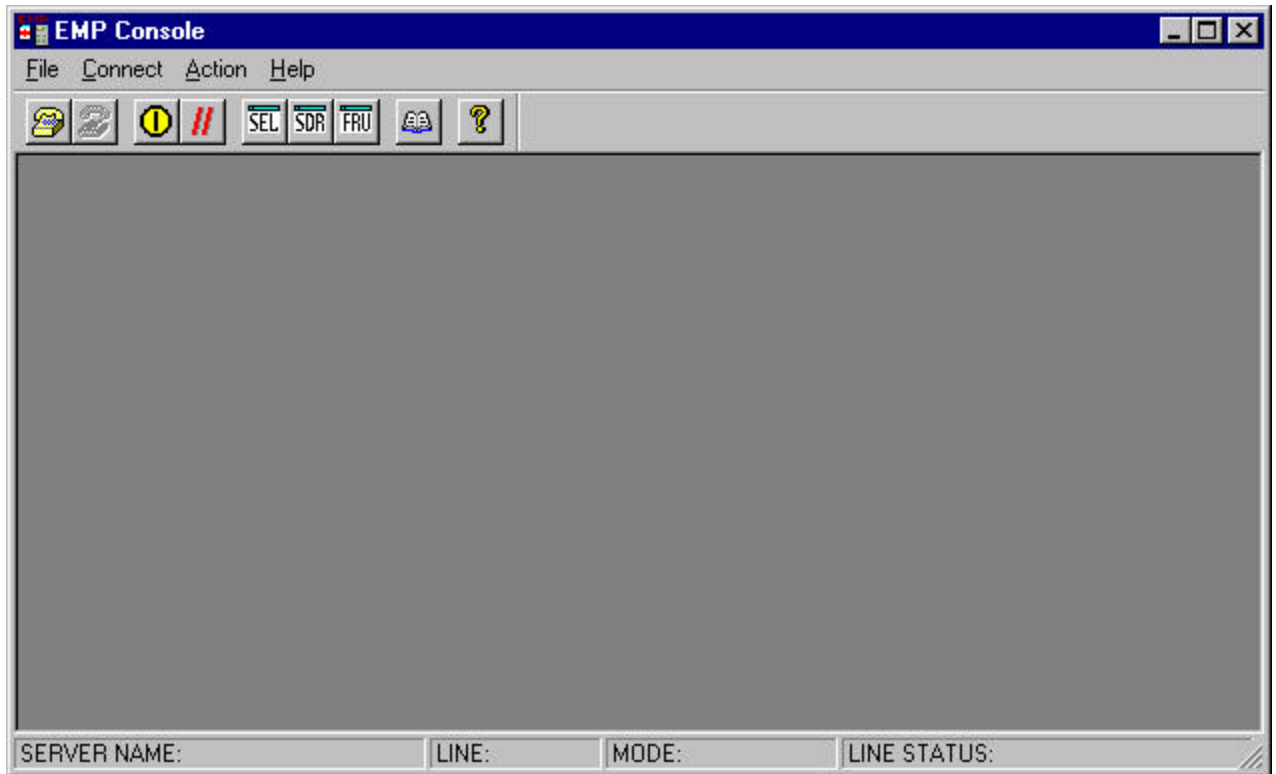

Figure 4: EMP Console Main Screen
5. When Installation is complete launch the EMP Console from the Start menu by selecting **Start | Programs | EMP Console | EMP Console**. See figure 4.